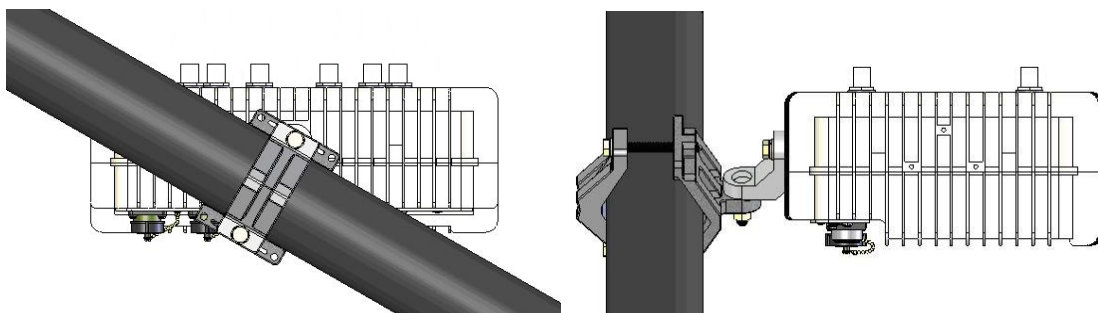

Figure 5: Aligning the NetPoint Pro 6x2.4
2. Once the NetPoint Pro 6x2.4 unit is mounted, release the bolts slightly and align the NetPoint Pro 6x2.4 unit horizontally using the level, as shown in Figure 5. When the unit is perfectly aligned, firmly close all bolts, applying 120 inch-lbs of torque.